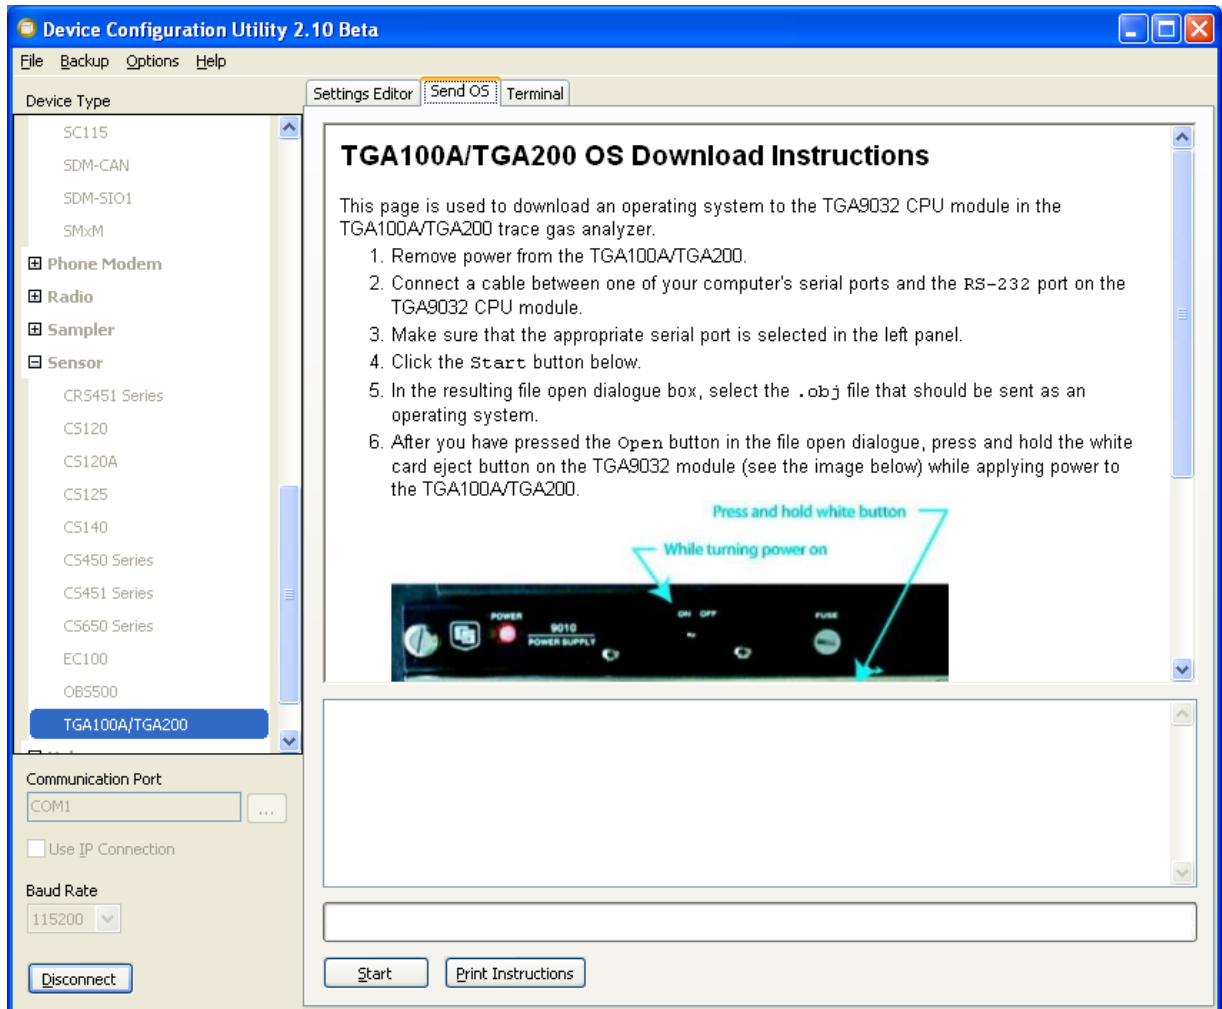

FIGURE 6-16. TGA100A/TGA200 OS download instruction
4. Select the *Send OS* tab and follow the directions (FIGURE 6-16) to send the new operating system to the TGA.